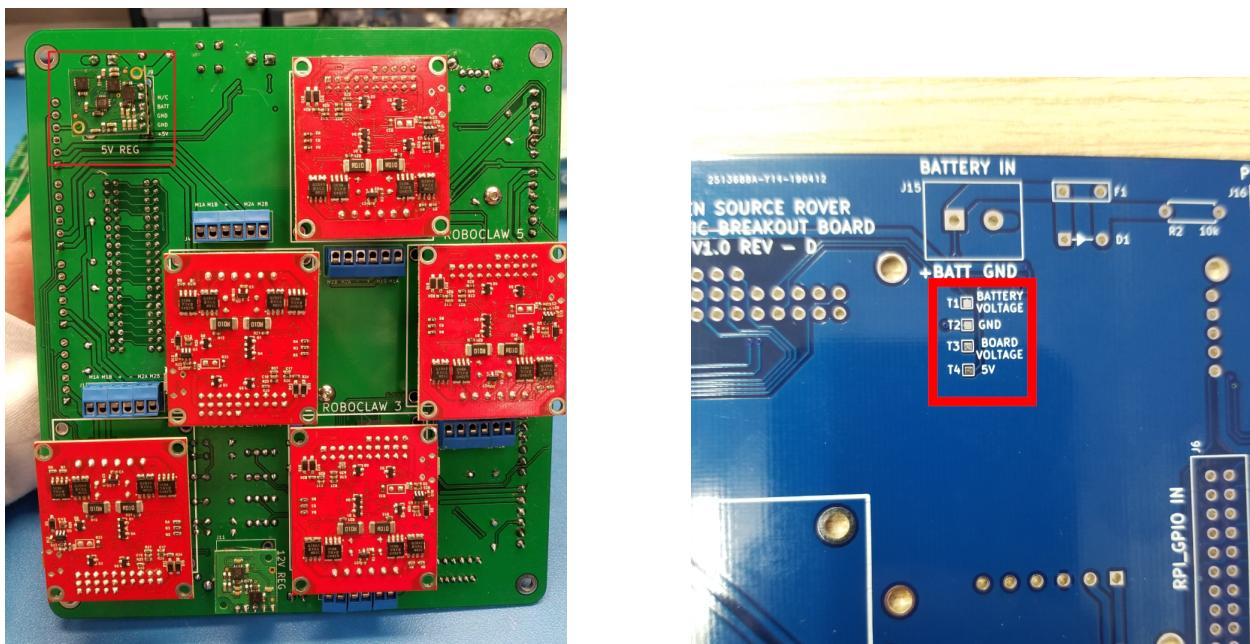

Figure 27: 5V Regulator & Test Pads
8. Insert the 5V regulator into the control board as shown in Figure 27. Power your board and probe between test points T4 and T2 on the top of the board (Figure 27) with your DMM and verify that it reads 5V. If it does not, make sure that the 5V regulator is slotted in properly and that your solder connections are solid.